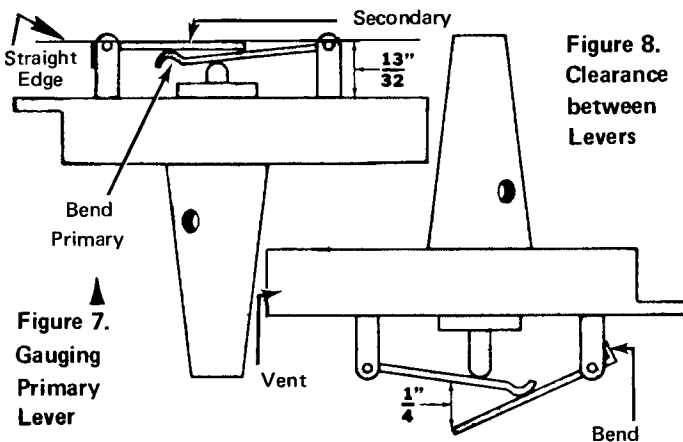

Figure 8. Clearance between Levers
3. Hold float bowl cover upright. (Figure 8) Distance between levers is  $1/4$ " (6.4mm). Bend tab on secondary lever as required.